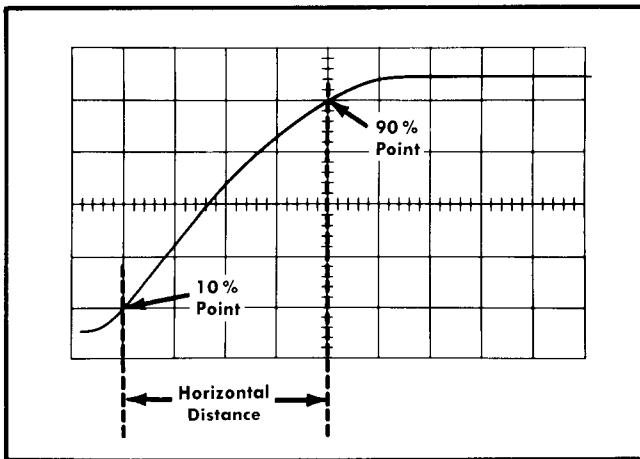

Fig. 2-17. Measuring risetime.
7. Adjust the Horizontal POSITION control to move the 10% point of the waveform to the first graticule line. For example, with a 4-division display as shown in Fig. 2-17, the 10% point would be 0.4 division up from the start of the rising portion.
Example. Assume that the horizontal distance between the 10% and 90% points is 4 divisions (see Fig. 2-17) and the TIME/DIV switch is set to 1 μ SEC with the MAG switch set to $\times 10$.